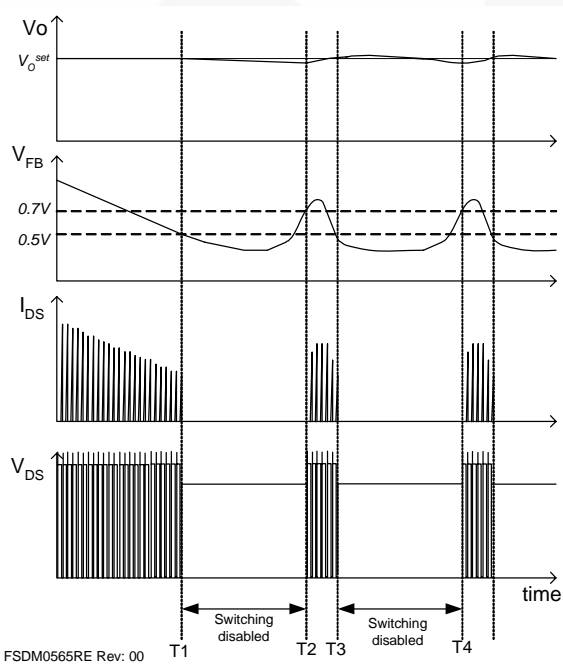

Figure 21. Waveforms of Burst Operation
5. Burst Operation: To minimize power dissipation in standby mode, the FSDM0x65RE enters burst-mode operation. As the load decreases, the feedback voltage decreases. As shown in Figure 21, the device automatically enters burst mode when the feedback voltage drops below V_{BURL} (500mV). At this point, switching stops and the output voltages start to drop at a rate dependent on standby current load. This causes the feedback voltage to rise. Once it passes V_{BURH} (700mV), switching resumes. The feedback voltage then falls and the process repeats. Burst-mode operation alternately enables and disables switching of the power SenseFET, thereby reducing switching loss in standby mode.